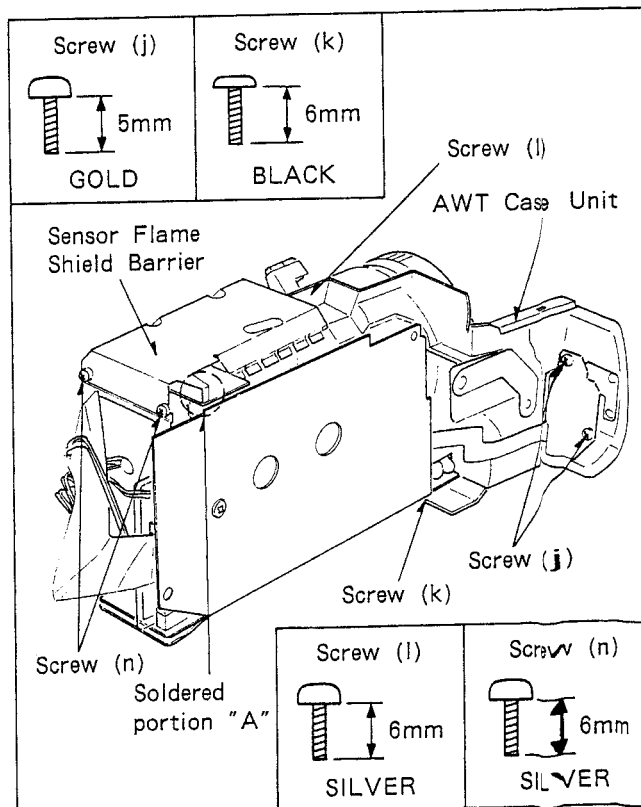

Fig. D16
- (1) Remove 2 Screws (n) shown in Fig. D16.
- (2) Using soldering iron remove the solder from solder portion "A", and then remove the sensor frame Shield Barrier.
- (3) Remove 2 Screws (o).
- (4) Lift the Sensor C.B.A. up slightly and then disconnect the Flexible Wire FP201 on Sensor C.B.A.